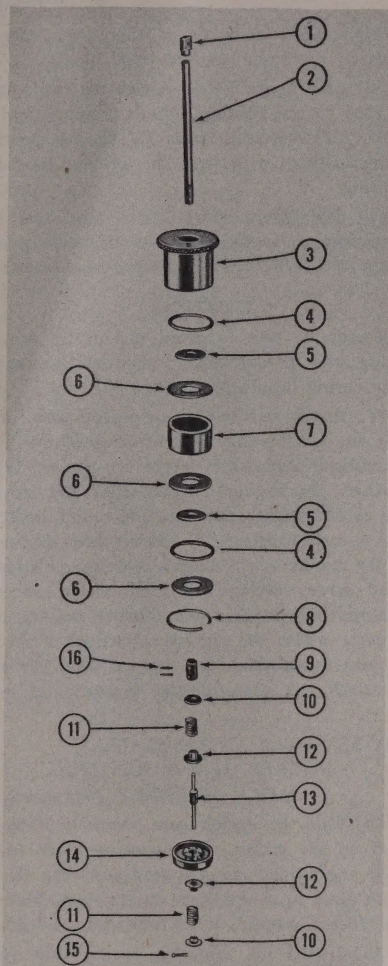

Figure 310 — Dash Pot Piston Assembly,
(c) No disassembly procedure was given for disassembling the piston assembly (1). This assembly should not be disassembled unless it is damaged and no replacement assembly is available. An exploded view of the piston assembly is shown in figure 310 to show all of the various parts which go to make up the cover assembly and the rod assembly. This assembly